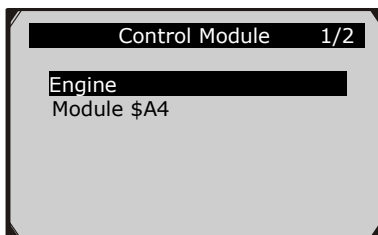

Figure 4.2
- If more than one module is detected, you will be prompted to select a module before testing. (Figure 4.2 )